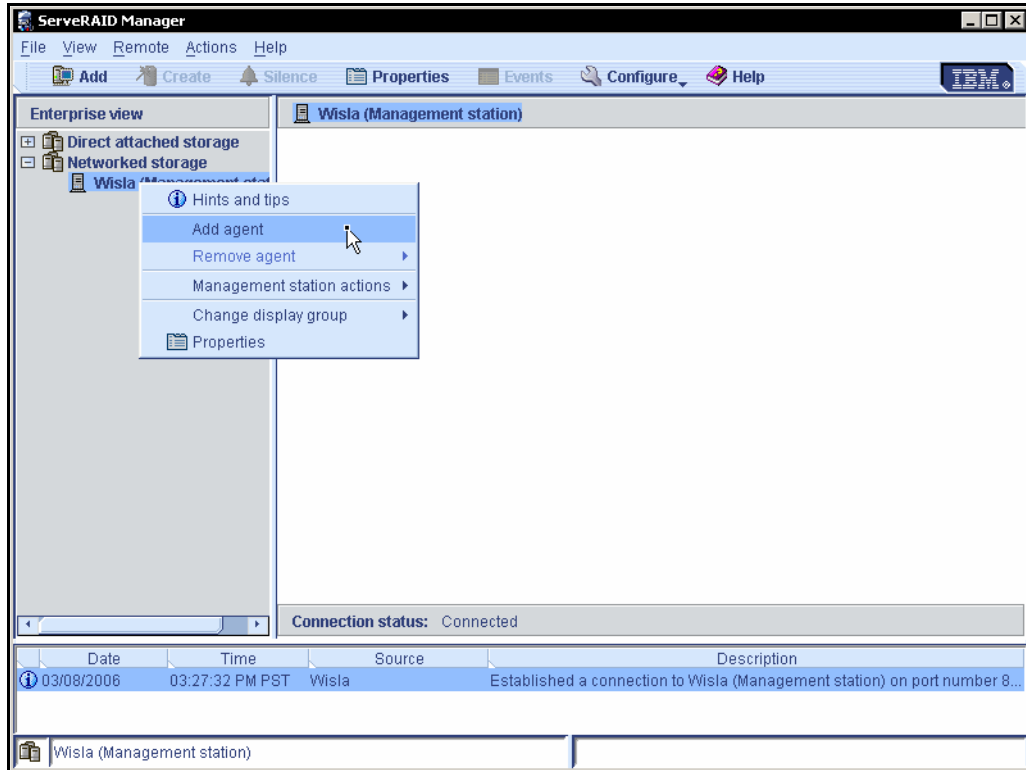

Figure 28 Adding a ServeRAID agent
- d. To add a ServeRAID agent, right-click the management station object in the Enterprise view of the ServeRAID Manager program interface, and select **Add agent** as shown in Figure 28.